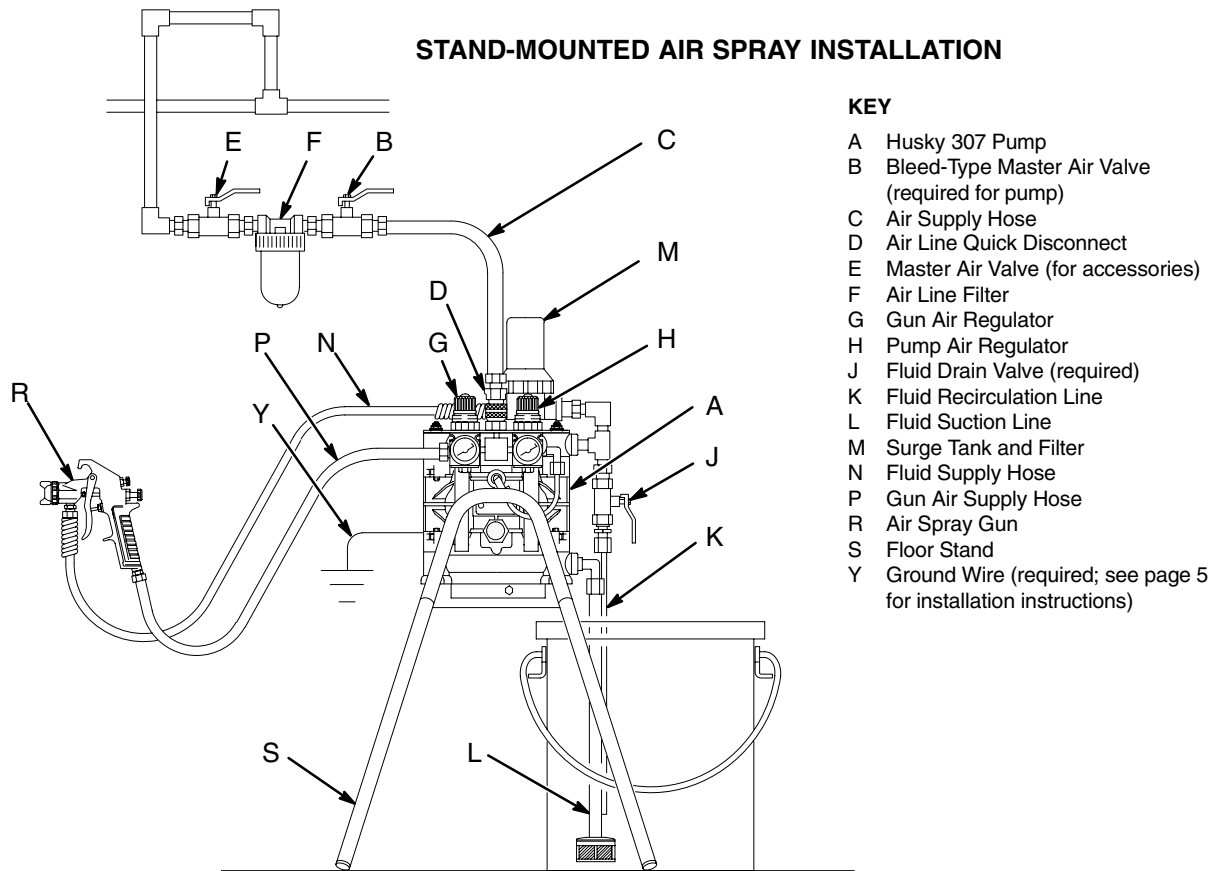
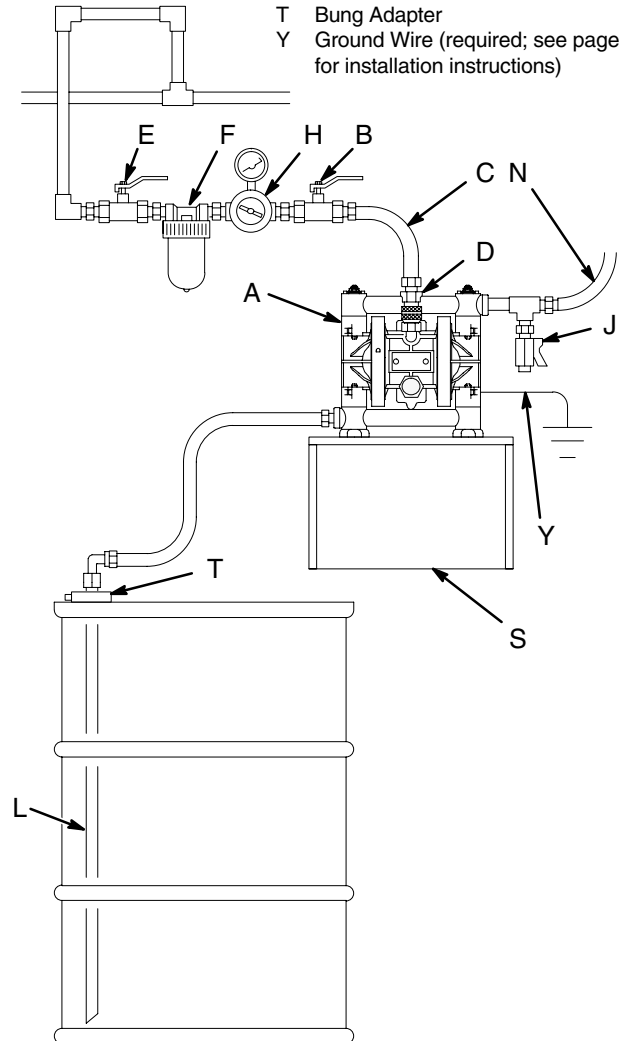

Fig. 4
Fig. 7
- The Typical Installations in Fig. 4 to Fig. 7 are only guides for selecting and installing system components. Contact your Graco distributor for assistance in planning a system to suit your needs.
- The Husky 307 Pump can be used in a variety of installations, some of which are shown in Fig. 4 to Fig. 7. Kits are available to adapt your pump to your system. Refer to the Product Data Sheet for the pump, Form No. 305528 (acetal pumps) or 305543 (polypropylene pumps).
When pumping conductive flammable fluids, **always** ground the entire fluid system by making sure the fluid system has an electrical path to a true earth ground (see Fig. 4 through Fig. 7).
**NOTE:** When pumping conductive flammable fluids with a polypropylene pump, **always** ground the fluid system. See the **WARNING** at left. Fig. 4 through Fig. 7 show recommended methods of grounding flammable fluid containers during filling.
A bleed-type master air valve (B) is required in your system to relieve air trapped between this valve and the pump. See Fig. 4 to Fig. 7. Trapped air can cause the pump to cycle unexpectedly, which could result in serious injury, including splashing in the eyes or on the skin, injury from moving parts, or contamination from hazardous fluids.
1. Install the air line accessories as shown in Fig. 4 to Fig. 7. Mount these accessories on the wall or on a bracket. Be sure the air line supplying the accessories is grounded.
A fluid drain valve (J) is required in your system to relieve pressure in the hose if it is plugged. See Fig. 4 to Fig. 7. The drain valve reduces the risk of serious injury, including splashing in the eyes or on the skin, or contamination from hazardous fluids when relieving pressure. Install the valve close to the pump fluid outlet.
See Fig. 4 for accessories